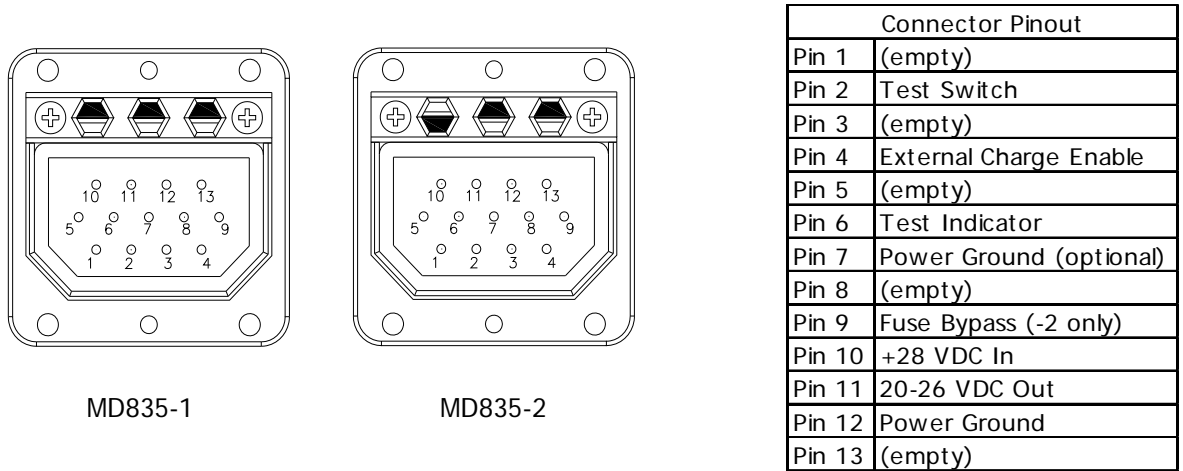

Figure 3.1 Pinout and Unit Connector
- A. Refer to the Unit Connector Figure 3.1 and Mating Connector Figure 3.2 to ensure that the three half-hex alignment pins are installed correctly to mate with the alignment holes in the unit connector. Note: there are two possible configurations as shown in the figures referring to the MD835-1 and the MD835-2 alignment pins.
Prepare harness in accordance with Installation Wiring Diagram Figure 3.4. 5V module includes the Mating Connector per Figure 3.1.
Prepare harness in accordance with MD835 connector pinout in Figure 3.1 and Installation Wiring Diagram Figure 3.3.